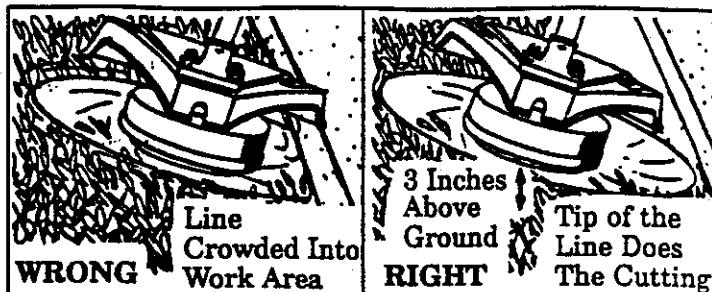

Figure 17
- The tip of the line does the cutting. You will achieve the best performance and minimum line wear by not crowding the line into the cutting area. The right and wrong way are shown in Figure 17.
1. **TRIMMING** - Figure 17. Hold the bottom of the trimmer head about 3 inches above the ground and at an angle. Allow only the tip of the line to make contact. Do not force the trimmer line into the work area.